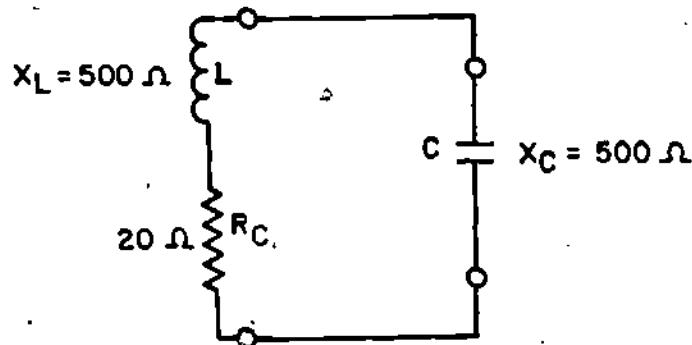

Figure 14
14. We now will talk about the Q of a tank in which the coil is a component. Figure 14 shows a simple tank.
In Figure 14, the tank is a resonant circuit containing a coil (L) and a capacitor (C). Within these two components, XL is the inductive reactance of the coil, XC is the capacitive reactance of the capacitor, and Rc is the resistance of the coil. Energy is stored in the magnetic and electric fields of the coil and capacitor. Energy is used in the form of heat caused by resistance. Now in a resonant circuit, the inductive reactance equals the capacitive reactance. Therefore XC can replace XL in the expression for Q. We can define the Q of this tank as the ratio of inductive or capacitive reactance to the coil resistance. The formula is
The tank in Figure 14 has a Q equal to  $\frac{X_L}{R_c}$  or  $\frac{X_C}{R_c}$ , which equals  $\frac{500 \text{ ohms}}{20 \text{ ohms}}$  or 25.